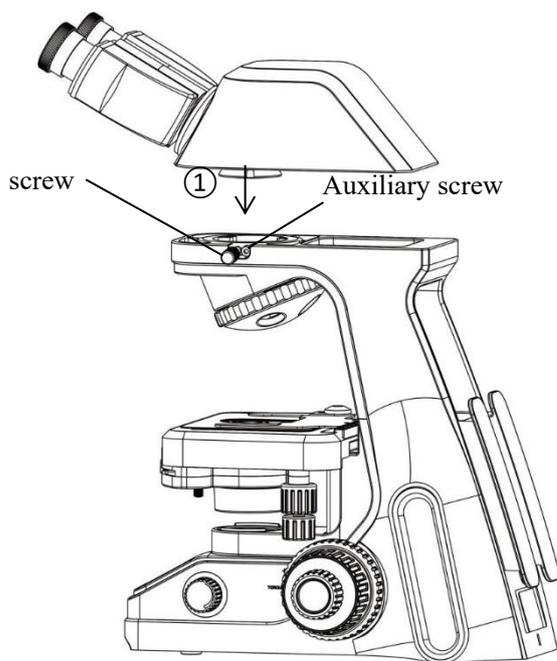

Fig.1
3-2-1 Installing the viewing head (Fig.1)
Install the viewing head into the microscope circular swallow tail by the path ① shown in Fig.1, tighten the auxiliary screw and turn it to the proper position, then fix up it by bolt.